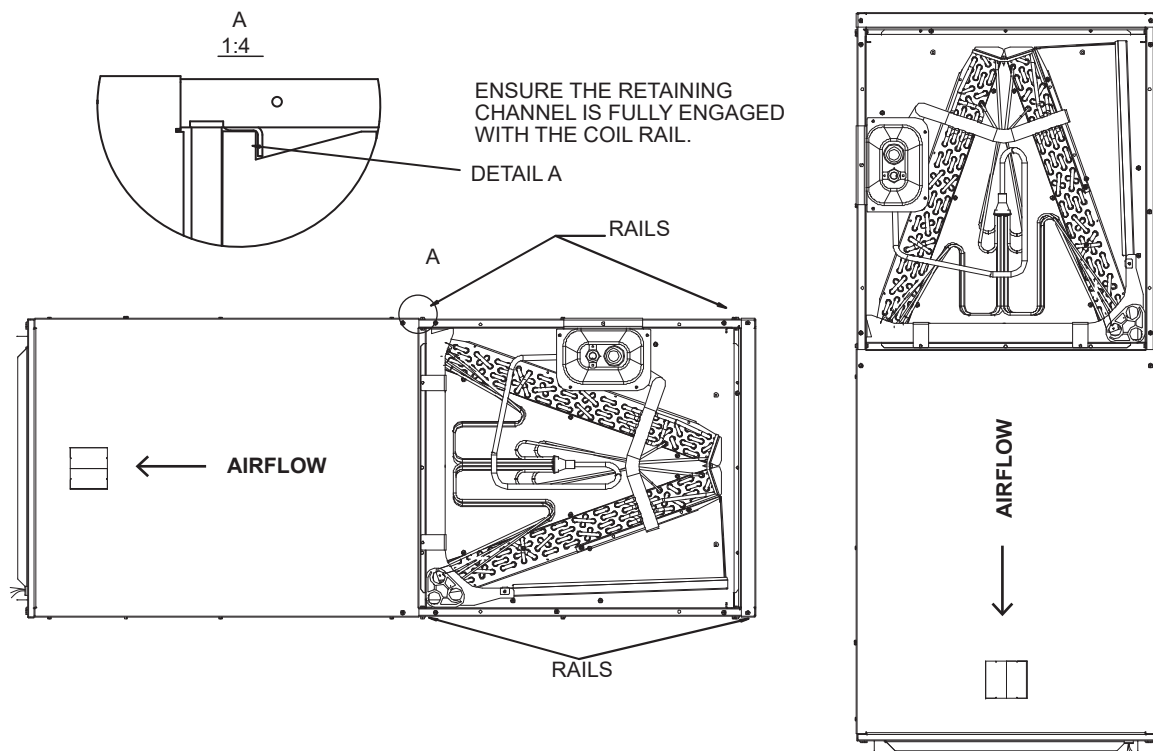

Fig.8 VERTICAL DOWNFLOW & HORIZONTAL LEFT APPLICATIONS
Conversion to Vertical Downflow: A vertical upflow unit may be converted to vertical downflow. Remove the door and indoor coil and reinstall 180° from original position. See Fig. 8.
- Rotate unit into the downflow position, with the coil compartment on top and the blower compartment on bottom. See Fig. 8.
- Reinstall the indoor coil 180° from original position. Ensure the retaining channel is fully engaged with the coil rail. See Fig. 8.